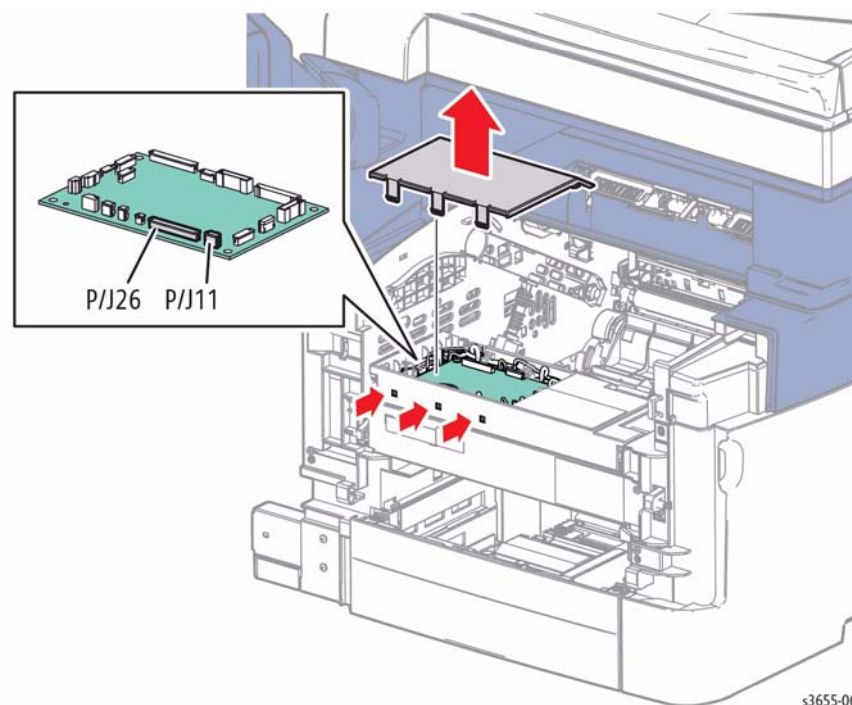

Figure 1 Disconnect the MCU Board
4. Refer to Figure 1 to locate and disconnect all MCU Board connections except P/J11,18 and 26.